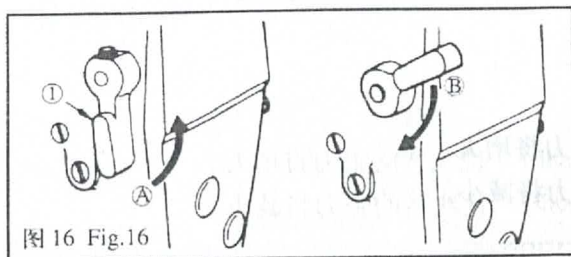

图 16 Fig.16
- 1) Loosen setscrew ②, and take out tension asm ⑤.
- 2) Loosen setscrew ④, and remove tension post ③.
- 3) As you turn tension post ③ clockwise (in direction A), the pressure will be increased.
10. 压脚扳手(图 16)
10. HAND LIFTER (Fig.16)